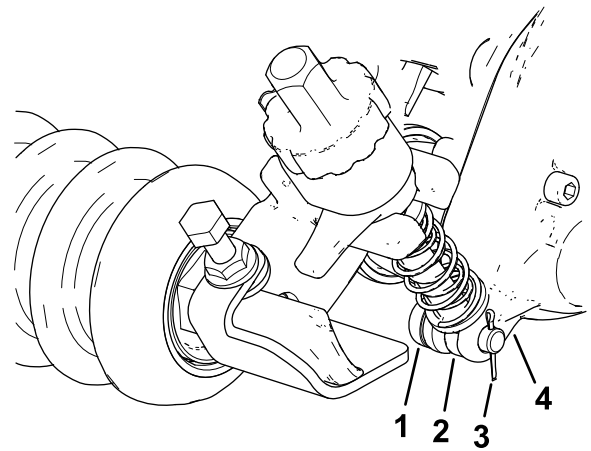

Figure 12
2. On the groomer box side, slide the adjuster-arm rod of the HOC bracket into the gap on the groomer drive box and secure it with an adjuster pin and cotter pin as shown in Figure 12.